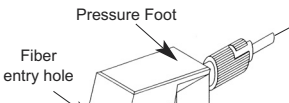

Figure 1
- Clean fiber with alcohol or cellophane tape to remove any debris/dust. Open end of the Bare Fiber Adapter by pushing down on the **pressure foot**. Insert fiber into **entry hole** and push through until fiber comes out the end of the connector (Figure 1). Pull fiber back slowly until flush with connector face.
Follow step 1 on the other side. Then, open the end of the Bullet® by pushing down on the pressure foot. Insert fiber into entry hole and push through until fiber comes out of the end of the connector (Figure 1 on other side). Pull fiber back approximately 1/2 the length of the ferrule. Release the pressure foot to secure the fiber. Remove dust cap from the PFS®. Slide the PFS® onto the ferrule of an ST, FC, SC or DIN Bare Fiber Adapter until it stops. Press down on the pressure foot and slowly push the fiber forward. Once the fiber stops release the pressure foot securing the fiber between the foam pads. Remove the PFS® from the Bare Fiber Adapter and replace the dust cap over the ferrule entry hole. Connect the Bullet® Bare Fiber Adapter to apparatus.